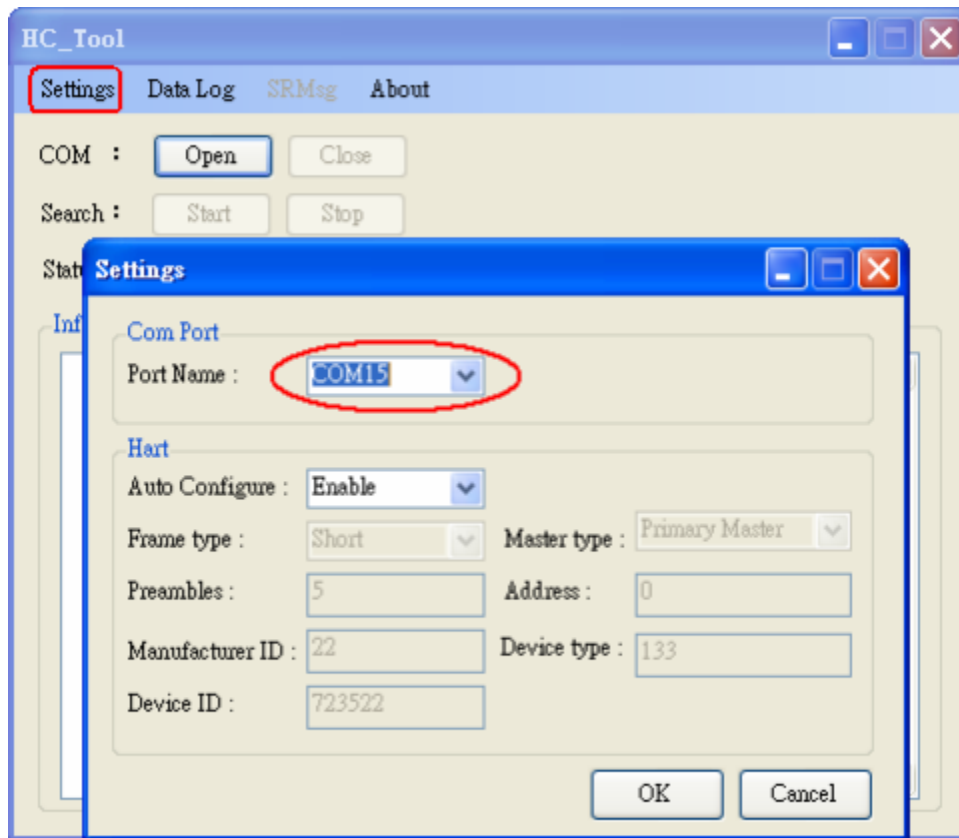

Figure 3-1: “Settings” function of HC_Tool
Step2: Run the “I-7570 Utility”, HC_Tool, and click the “Settings” item like Figure 3-1 to configure the serial connection and HART command parameters. Figure 3-1: “Settings” function of HC_Tool